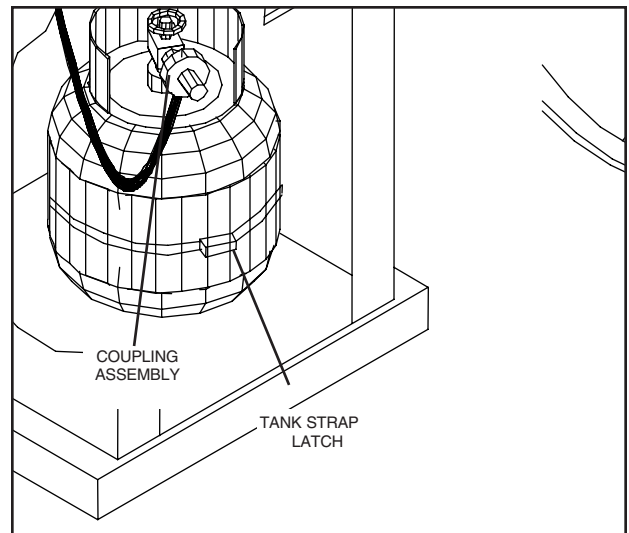

Figure 3. Gas Tank Placement
4. Place the gas cylinder in the space provided in the pedestal and secure the tank with the tank strap latch assembly (See Figure 3). Remove the protective caps from Cylinder Valve Outlet and Nipple, as necessary.